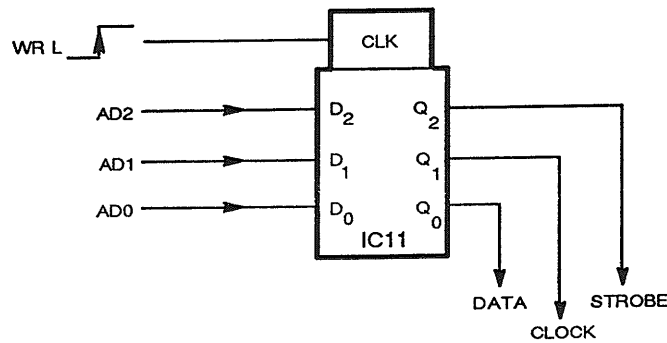

Fig. 4-4 Data transmission (AA2/1)
53. To obtain the required sequence, information is set up one bit at a time on the data line, then the CLOCK line is asserted 'high'. The positive edge of the CLOCK pulse will enable the shift registers on A2/2 board to accept the data. The STROBE line will be taken 'high' to transfer data entered in this manner to the registers when appropriate. Fig. 4-4 shows the basic circuit arrangement for data transmission.